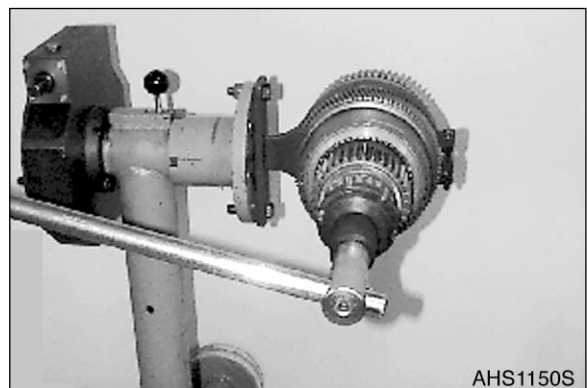

Figure 156
2. Loosen slotted nut (Figure 156).